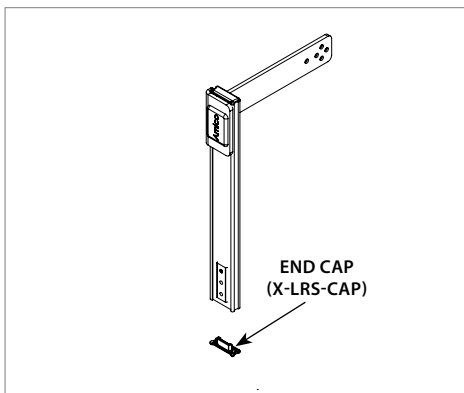
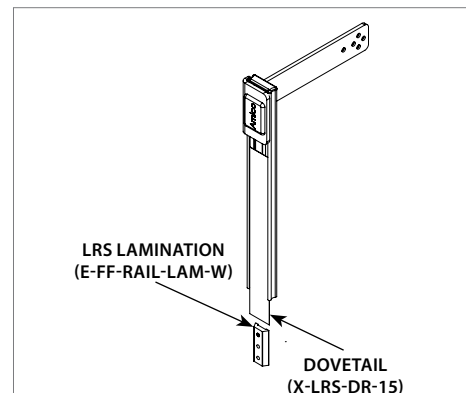

Figure 30
Figure 31
2. Remove the bottom **END CAP (X-LRS-CAP)** by using a flat head screwdriver to push down (**Figure 30**), then unscrew the set screws with a $\frac{3}{16}$ " Allen Key to slide out the **DOVETAIL (X-LRS-DT-15)** and **LRS LAMINATION (E-FF-RAIL-LAM-W)** (**Figure 31**).